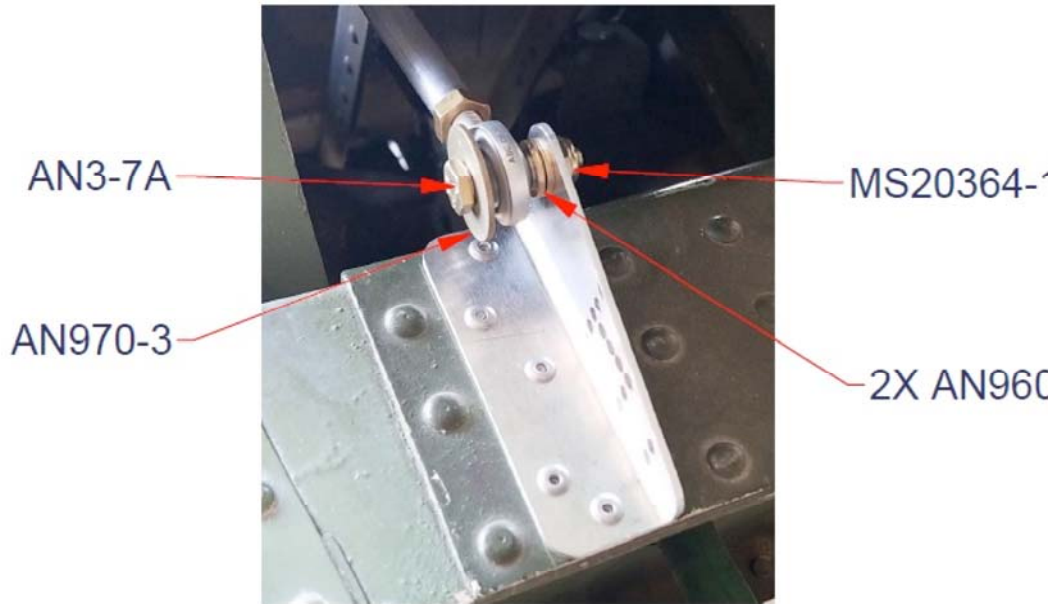

Figure 3-13
- (5) Place the stabilator in the full down position. Adjust the rod ends on the push rod assembly so that the rear rod end bearing aligns with the hole in the pitch arm on the stabilator and the servo arm has approximately 1/8" clearance from the rear servo stop.
- (6) Secure the rear rod end bearing to the Cessna 177 Pitch Arm (P/N 1450-114) as shown in Figure 3-13. Verify that the servo arm does not contact either stop when the stabilator is at full up or down deflection. If necessary adjust the rod ends to allow clearance. Torque AN3-7A bolt to 20-25 in-lb.